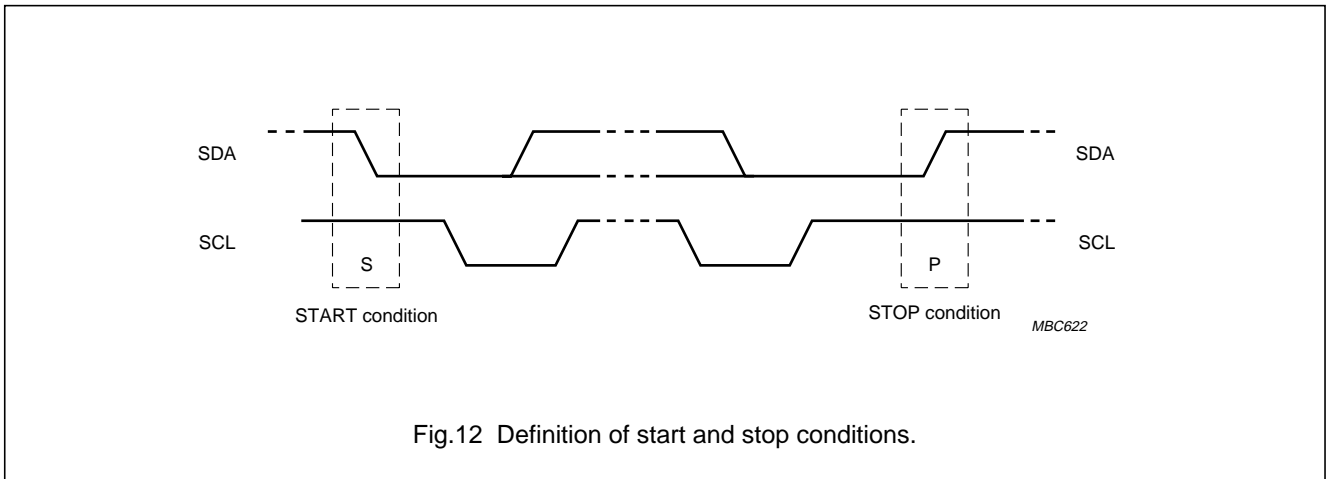

Fig.12 Definition of start and stop conditions.
Refer to Fig.12. Both data and clock lines remain HIGH when the bus is not busy. A HIGH-to-LOW transition of the data line, while the clock is HIGH is defined as the start condition (S). A LOW-to-HIGH transition of the data line while the clock is HIGH is defined as the stop condition (P).